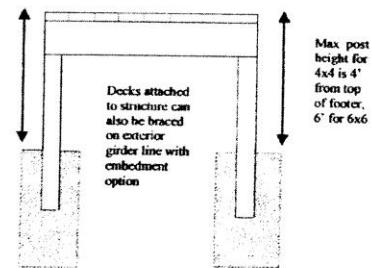

Figure AM109.2
- ▶ **AM109.1.3** For freestanding decks without knee braces or diagonal bracing, lateral stability may be provided by embedding the post in accordance with Figure AM109.2 and the following: